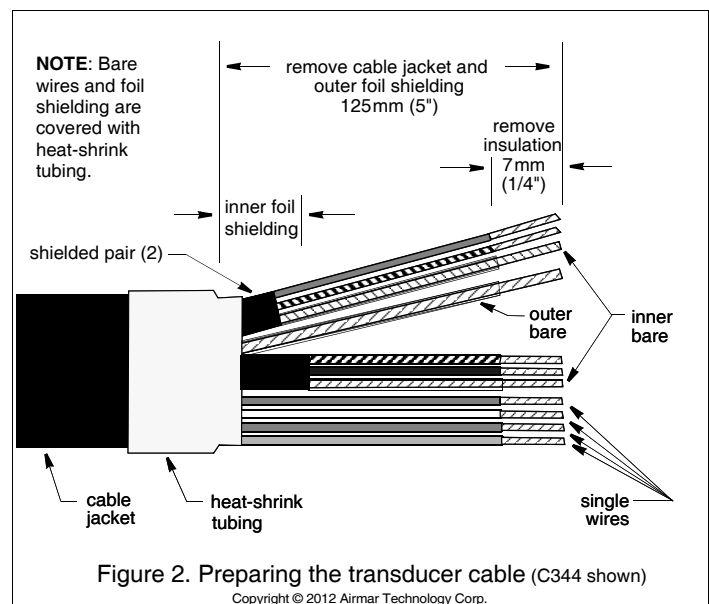

Figure 2. Preparing the transducer cable (C344 shown)
2. Strip 105mm (5") of the outer jacket and foil shielding from the cut end of the cable (see Figure 2).